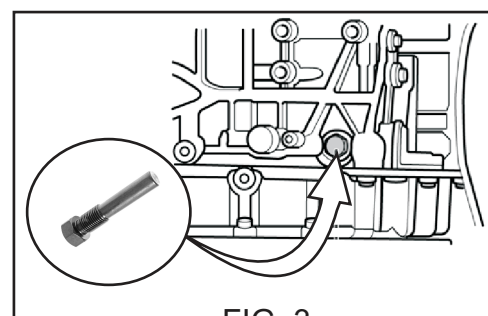

FIG. 3
- 3 Turn the crankshaft until cylinder n°1 is positioned at TDC and mount the crankshaft lock tool [FIG. 3].